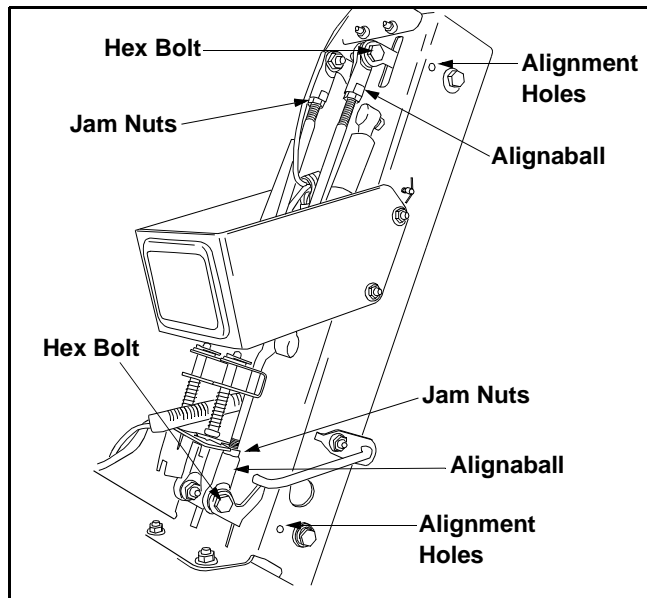

Figure 12
- Remove bolts that secure linkage to upper control handles and lower control arms. The shock absorbers should remain connected to linkage. See Figure 12.